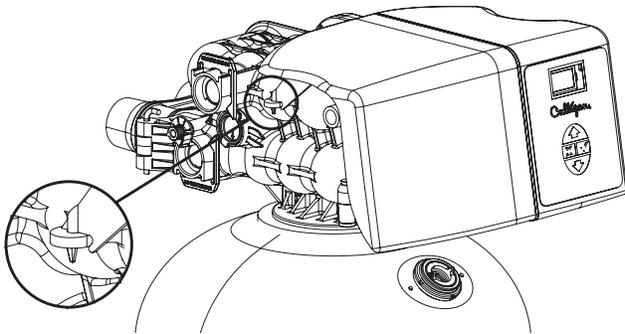
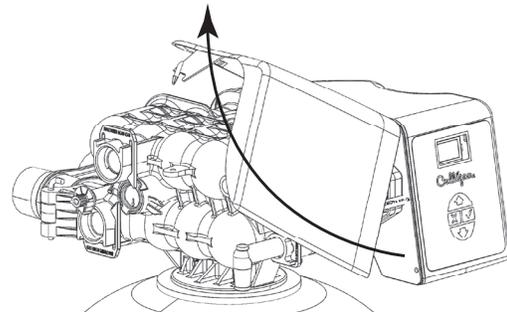

Figure 6. HE 1.5 Twin valve cover fastener clip.
Figure 7. Removing the HE 1.5 Twin valve cover.
1. Remove the cover by releasing the cover fastener from the control valve. See Figure 6 and Figure 7.